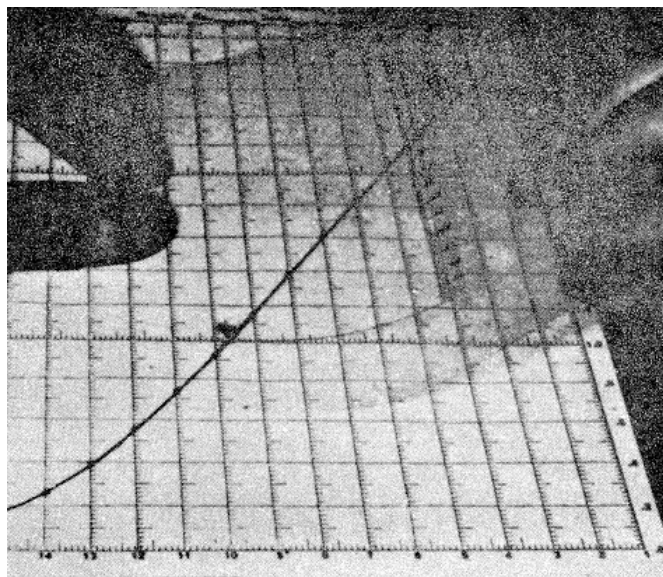

Figure 43.
(3) Overlap the base line of the gammeter (figure 43) on ANY horizontal line (within the straight line portion of the graph paper).